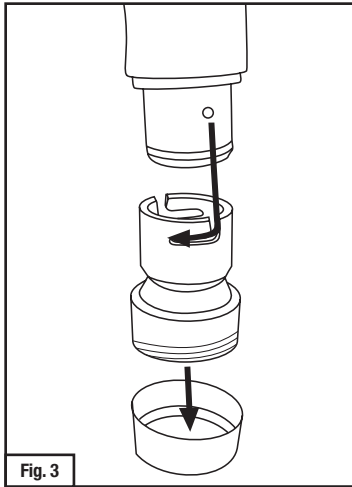

Fig. 3
2. Attach the BT breathing tube to the adapter by inserting the tube end with two prongs into the top of the adapter. Twist the end of the tube to lock it in place (Fig. 3).